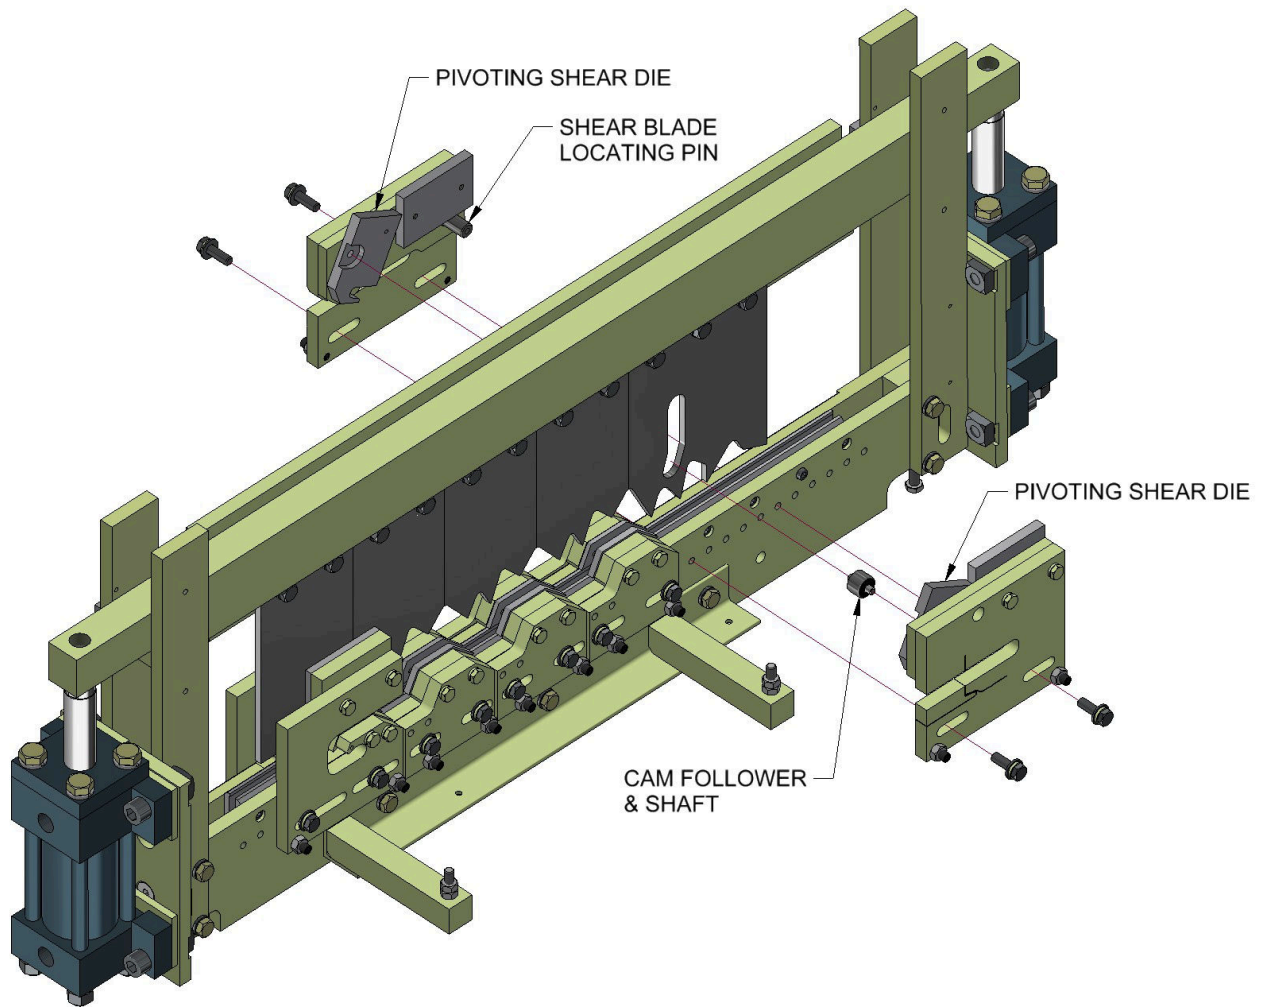

Figure 24: Left Shear Die Detail
16. Move the left shear dies and blade over to their new position. The alignment marks should line up with the tip of the hem. Take care when removing the left dies because there is a cam follower that sits in the groove machined into the left blade. When reinstalling the left dies the shaft in the cam follower needs to engage the pivoting shear dies. Refer to Figure 24: Left Shear Die Detail.